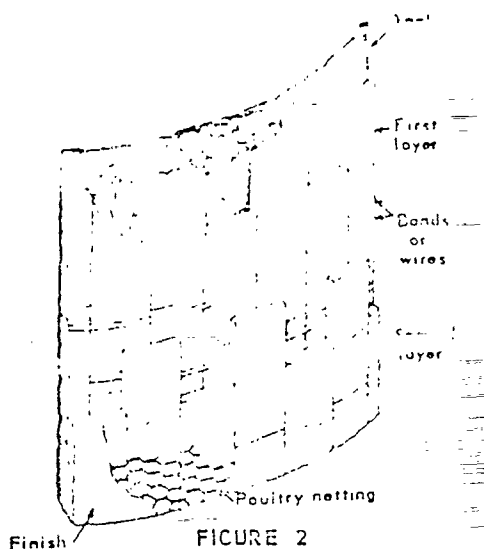

FIGURE 2
3.3 Double-layer Construction. The first or inner layer of curved block, or segmental block insulation shall be applied with joints tightly butted and lateral joints staggered. Bands shall be placed over blocks approximately 1 inch from each end of each block, thus providing four bands for each 36-inch length of insulation. The second or outer layer shall be applied so that all joints are staggered with the first layer and tightly butted together. Bands shall be placed over second layer of blocks approximately 1 inch from each end of each block, thus providing four bands for each 36-inch length of insulation. All chipped edges, cracks or imperfections shall be filled and smoothed with Insulation Cement, Code 502. Over the insulation and bands apply Poultry Netting, Code 714, drawn tight and laced into place. See Figure 2.